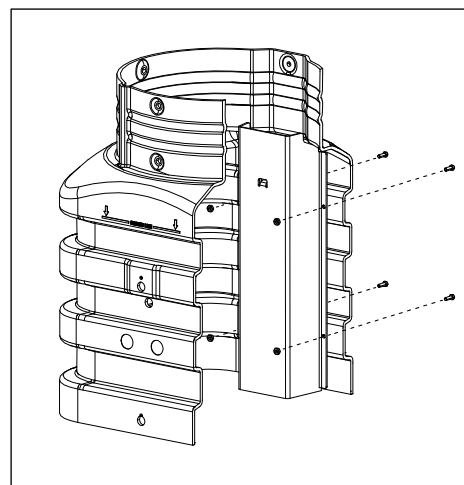

Figure 3
4. Secure the drop channel using the four screws and nuts included with the kit. Insert the screws from outside the pedestal and tighten the nuts on the inside (Figure 3).